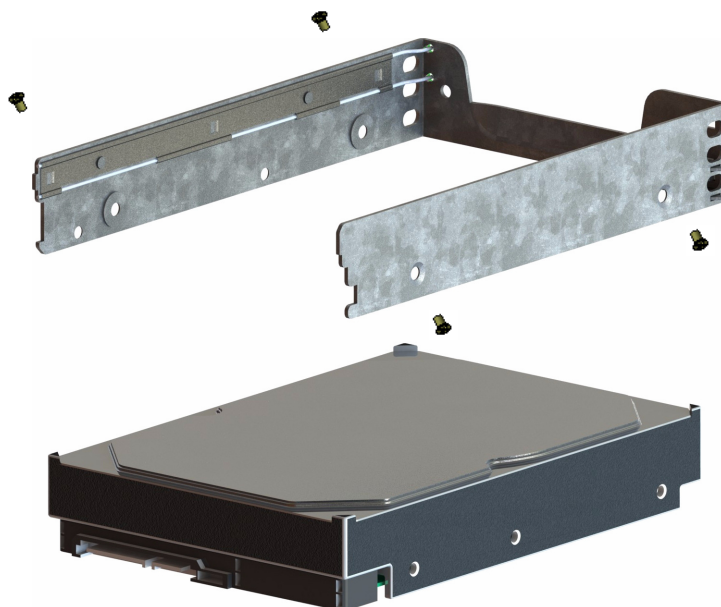

Figure 4-6 Hard Drive Carrier
As shown in Figure 4-6, the drives are mounted in drive carriers to simplify their installation and removal from the drive bricks or boot drive bays in the chassis.
4. Secure the hard drive using the four screws (see Figure 4-6).